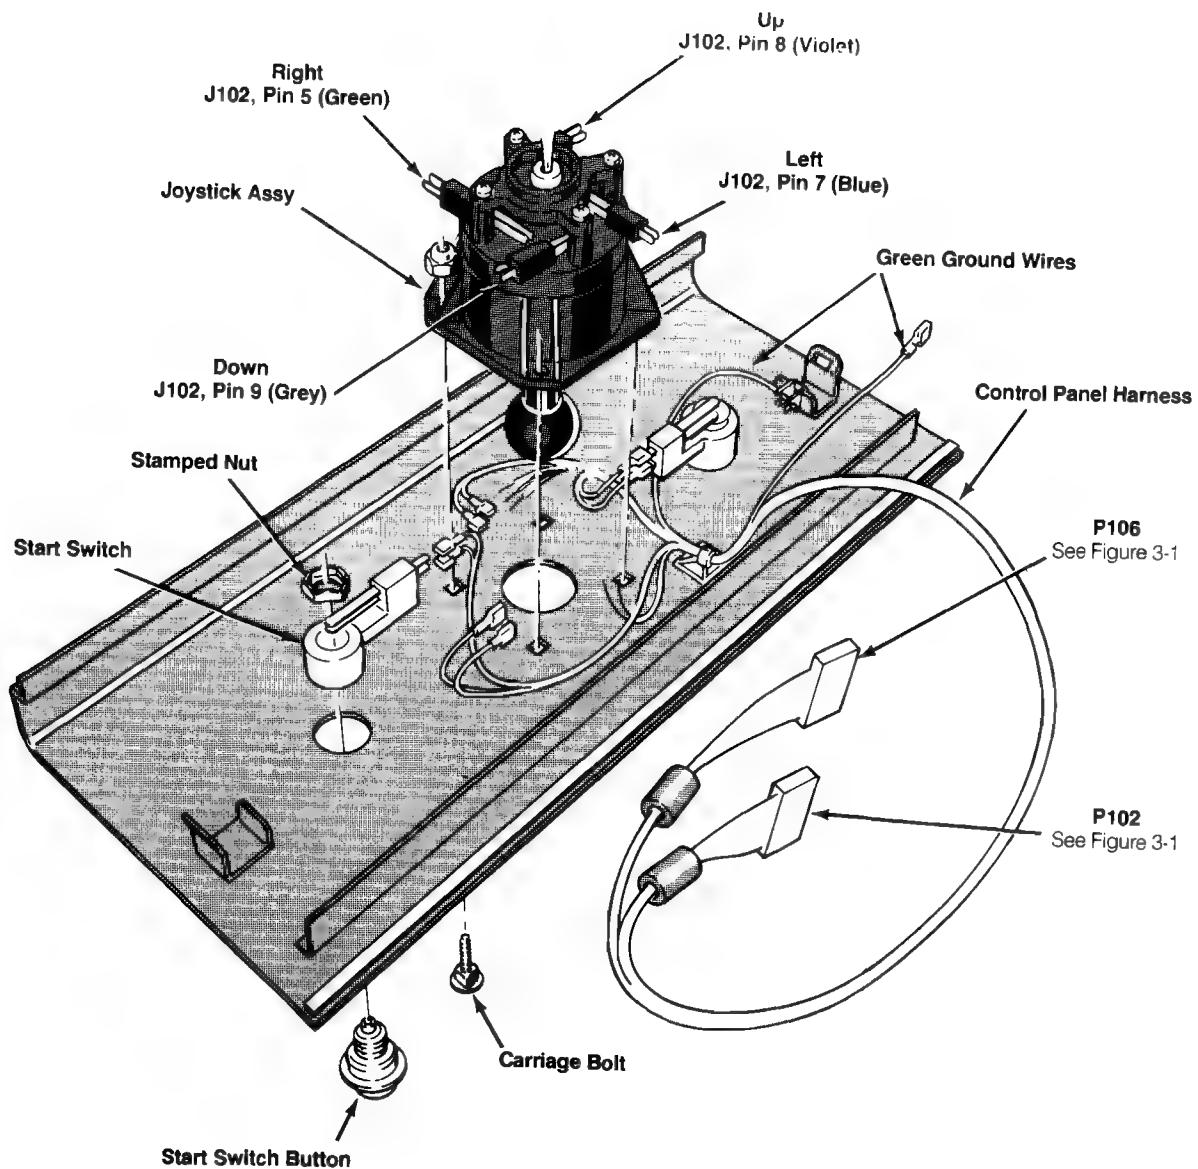

Figure 3-2 Removing the Joystick Assembly and Start Switches
Perform the following procedure to remove/replace the player start switches (see Figure 3-2).
Reconnect the harness wires as shown in Figure 3-2.
3. To remove the switch pushbutton, turn the stamped nut with a wrench in a counterclockwise direction, as seen from the inside of the control panel. The ring on the outside of the control panel should not spin (see Figure 3-2).
4. Reinstall the pushbutton switch. Reconnect the harness wires to the switch terminals as shown in Figure 3-2.
Perform the following procedure to remove/replace the joystick from the control panel (see Figure 3-2).